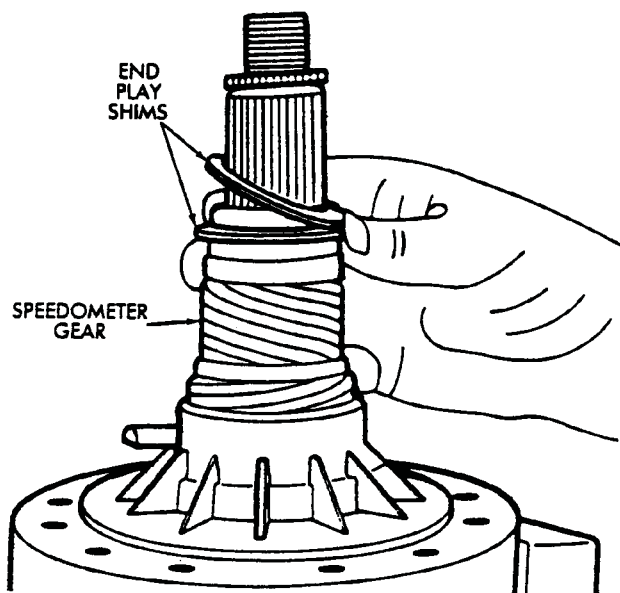

Fig. 4-64 Install Speedometer Gear And End Play Shims
67. Install speedometer drive gear (Fig. 4-64).
68. Measure thickness of original end play shims. Then install shims on rear output shaft (Fig. 4-64).